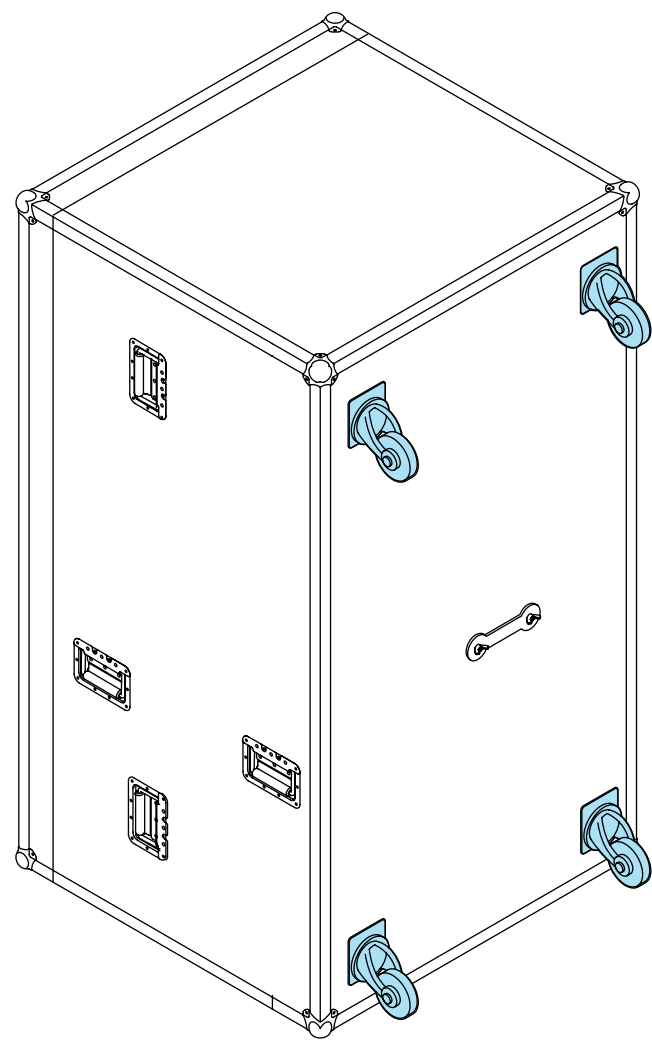
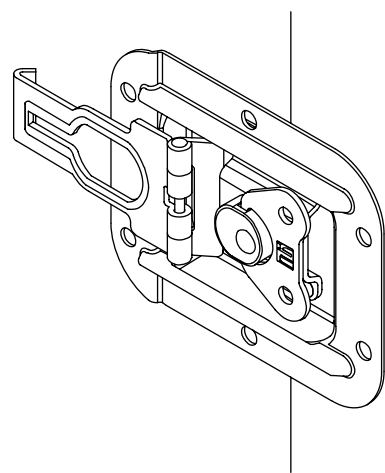
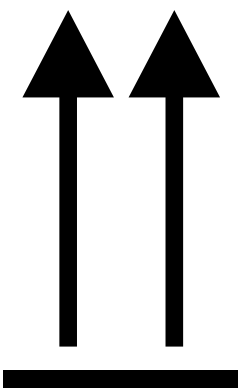

Fig. 5.4. Bottom of the case with the wheels
Fig. 5.5. Case lock
Fig. 5.6. Case sticker with a marking
The case is equipped with wheels (Fig. 5.4), locks (Fig. 5.5) and handles. The robot can be moved either strictly vertically, according to the marking on the sticker (Fig. 5.6), or horizontally on the wheels.
1. Place the case in vertical position according to the transportation marking (Fig. 5.6).
2. Unscrew the thumbscrews (Fig. 5.5) on the four locks of the lid, disengage the locks, remove the lid by pulling it forward and put it aside.